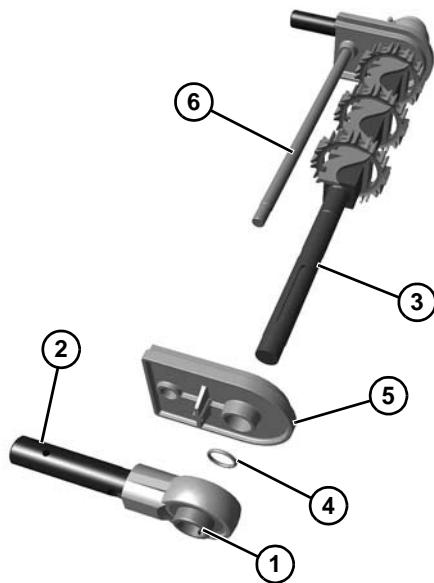

Figure 54
7. Use a hex wrench to loosen two set screws (Figure 54, item 1) on the bearing shaft assembly.
8. Slide the bearing shaft assembly (Figure 54, item 2) off the drive spindle (Figure 54, item 3).
When removing tracking plate, be certain not to lose O-ring (Figure 54, item 4).
9. Slide the tracking plate (Figure 54, item 5) off the drive spindle.
10. Remove pinch guard shaft (Figure 54, item 6).